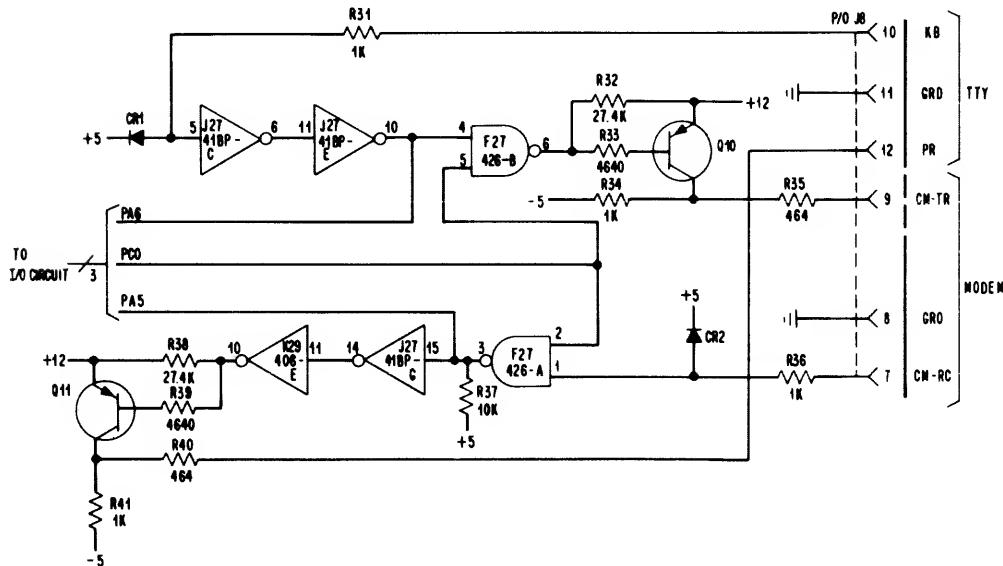

Figure 2-7. TTY Terminal and Data Set Interface Schematic Diagram
2.2.6 TTY Terminal and Data Set Interface (See Figure 2-7.)